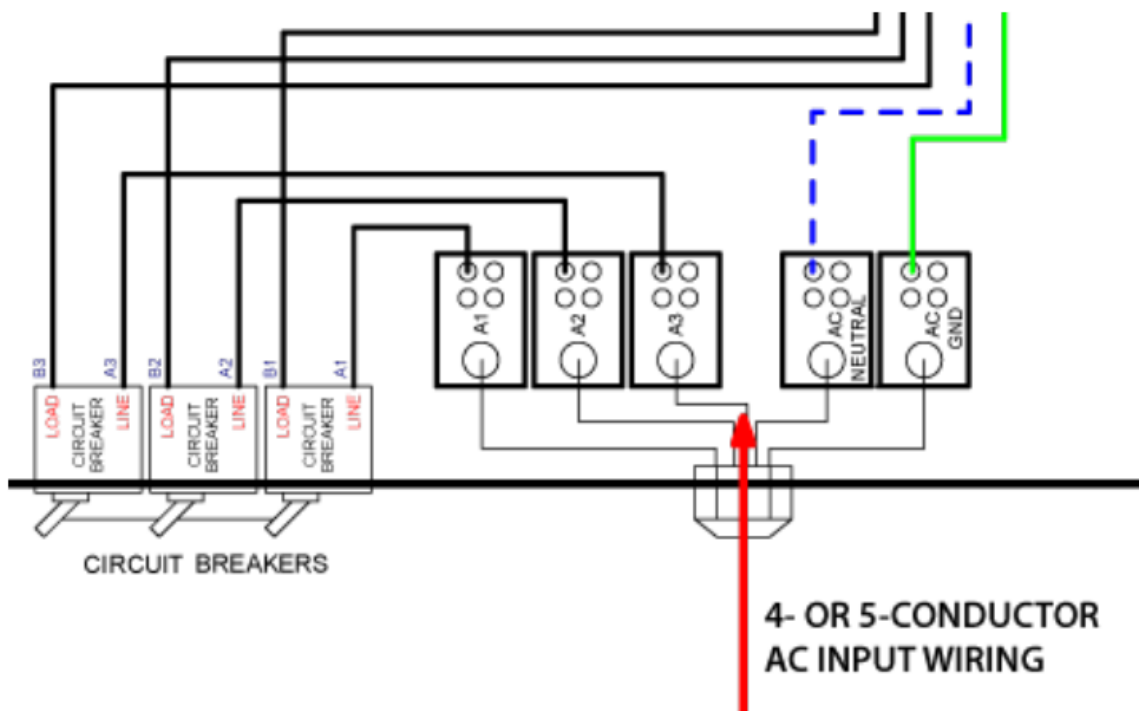

Figure 2.13 – Three-Phase AC Mains Wiring
5. Connect to the AC mains barrier strip as shown in Figure 2.13.